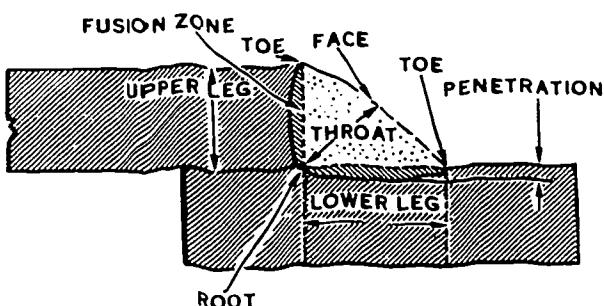

Figure 2-14. Lap weld nomenclature.
**Weld Nomenclature.** The meanings of the terms for a lap joint, shown in figure 2-14, are as follows: